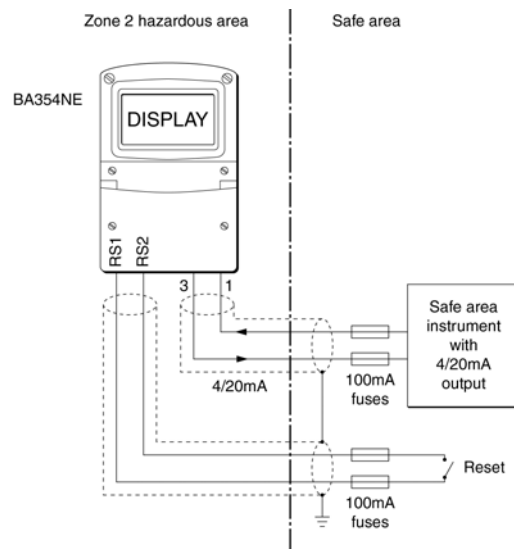

Fig 3 Remote indication in Zone 2 hazardous area
3. The 4/20mA output from the safe area instrument must be able to supply the 1.2V required to operate the Rate Totaliser. This increases to 5.0V if the Rate Totaliser includes an optional backlight which is loop powered. See 10.4.1 Fig 3 shows a typical application.
If the totaliser is to be reset by a manually activated contact closure in the safe area, 100mA fuses mounted in isolating terminals should be connected into each of the reset wires as shown in Fig 3. Again the wiring must be able to withstand a 500V rms insulation test for one minute, but any mechanically activated push button switch may be used.